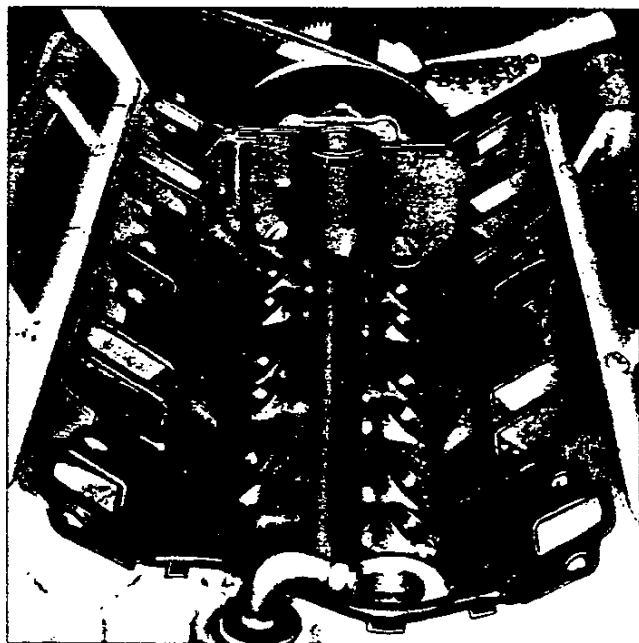

Fig. 16—Manifold Gasket and Seal Installation
2. Install manifold and seals on block with tabs as shown in Figure 16.